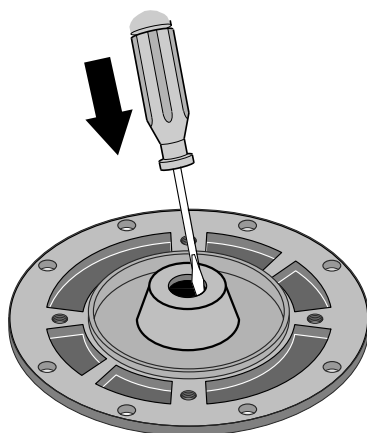

Figure 21 – Tap Out Seal
- Step 5. Place seal plate half face down on flat surface and tap out stationary half of seal (see Figure 21).